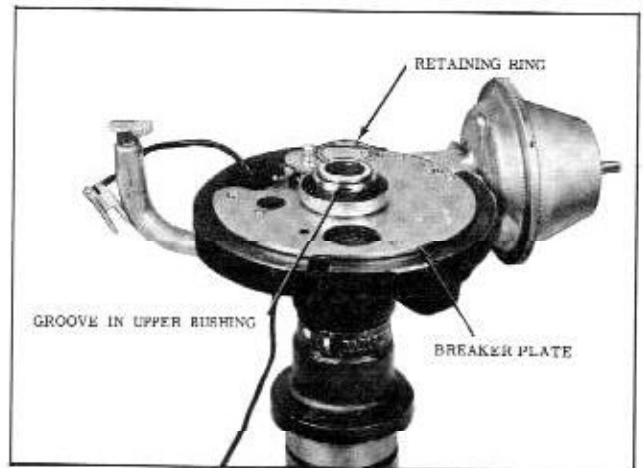

Fig. 13-66 Breaker Plate
4. Remove the retaining ring from the upper bushing and lift the breaker plate and felt wick from the bushing. (Fig. 13-66)